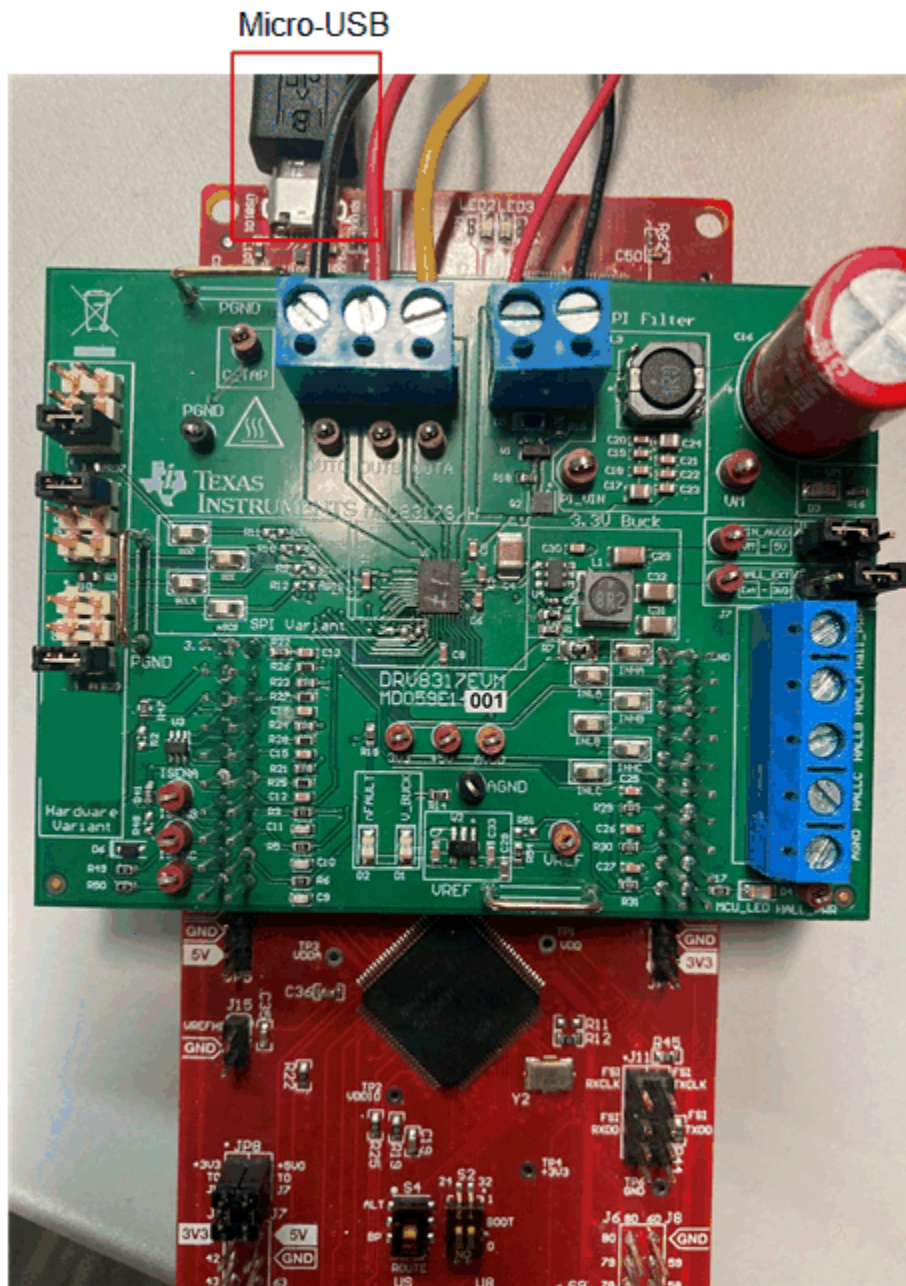

Figure 4-3. DRV8317HEVM on headers J1/J3 and J2/J4 of LaunchPad and Micro-USB plugged into LaunchPad
3. Mate the DRV8317HEVM onto the top half of the LAUNCHXL-F280049C (LaunchPad Headers J1/J3 and J2/J4) as shown in Figure 4-3. Make sure motor and power connectors face the same direction as the Micro-USB connector on the LaunchPad.
Figure 4-3 shows where the Micro-USB cable is plugged in to the LAUNCHXL-F280049C to provide communication between the LaunchPad firmware and GUI as well as the correct installation of the DRV8317HEVM to the J1/J3 and J2/J4 headers of the LaunchPad.